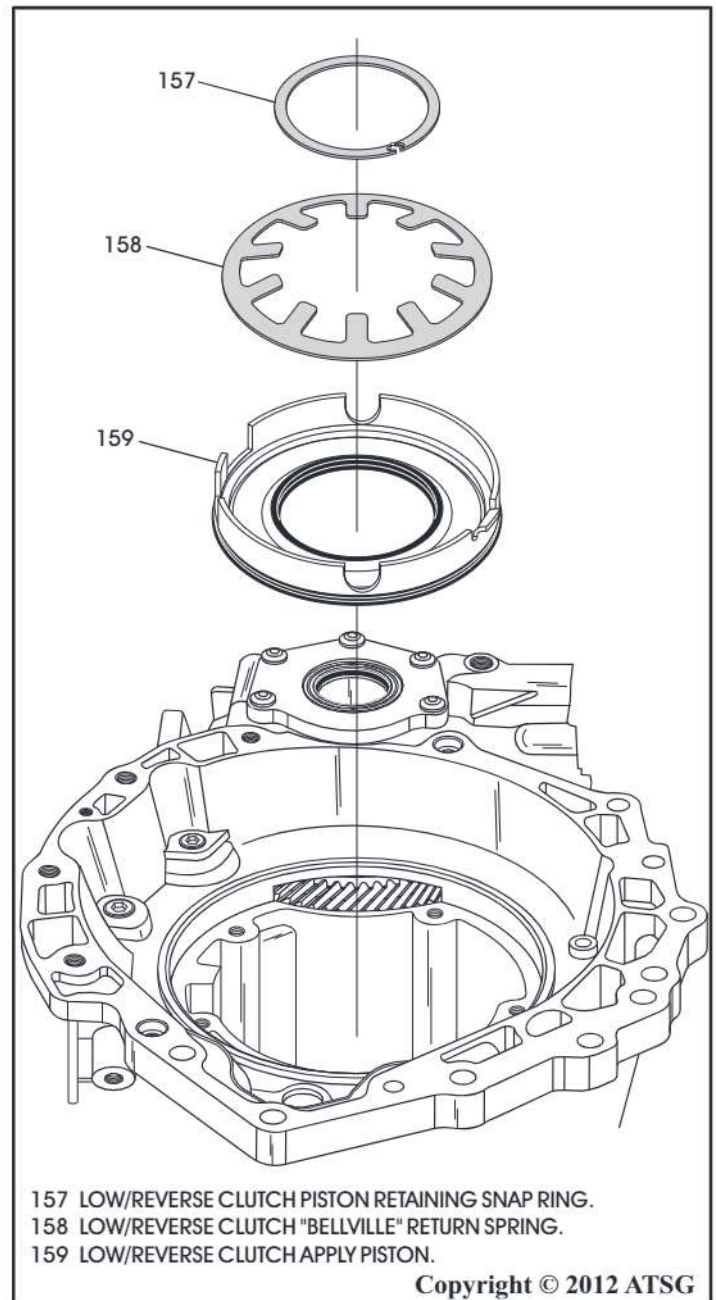

Figure 80
73. Using a universal spring compressor, compress the low/reverse clutch bellville return spring and remove the snap ring, as shown in Figure 80.
74. Remove the low/reverse clutch bellville return spring as shown in Figure 80.
75. Remove low/reverse clutch bonded apply piston, as shown in Figure 80.